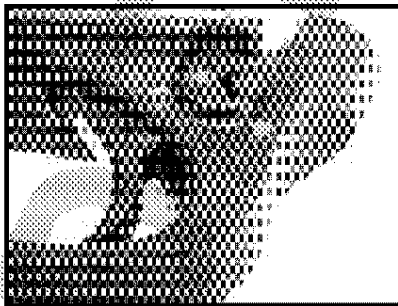

Figure 2 - ISS unlocked, safety in "Off-Safe" position
- Place the Safety in the "Off Safe" position (Red band showing - See Figure 2) and pull the trigger. The hammer must fall. If the hammer does not fall then the test sample fails.